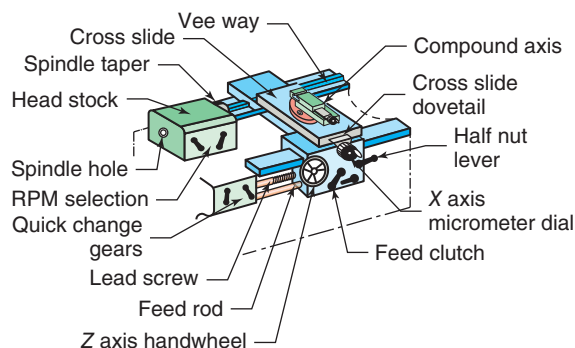

Figure 11-171 The major components of the lathe.
1. Lathe components are identified in Fig. 11-171.